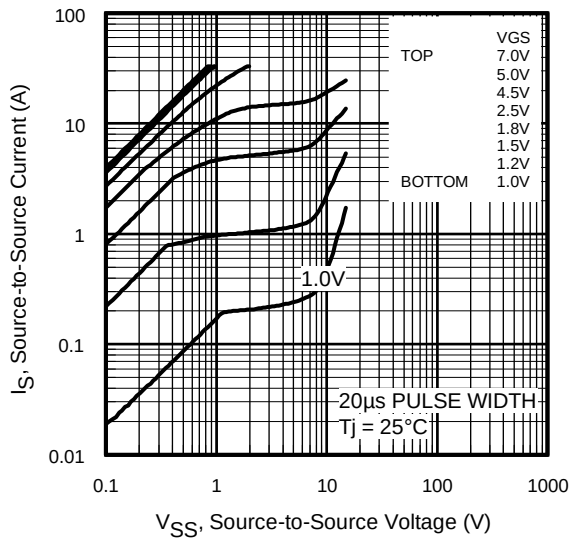

Fig 1. Typical Output Characteristics. ④
- ① Repetitive rating; pulse width limited by max. junction temperature.
- ② Pulse width $\leq 400\mu s$; duty cycle $\leq 2\%$. Gate voltage applied to both gates.
- ③ When mounted on 1 inch square 2oz copper on FR-4.
- ④ Figures 1, 2 and 3: One Fet is biased with $V_{GS} = 9.0V$ and curves show response of the second FET. See Fig.4.